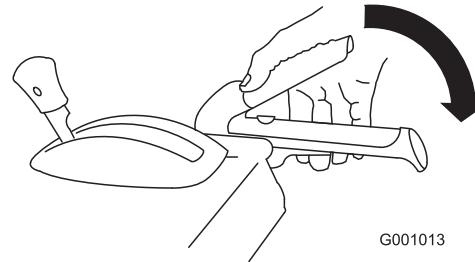

Figure 40
2. Engage the auger/impeller lever and hold it in place (Figure 40).